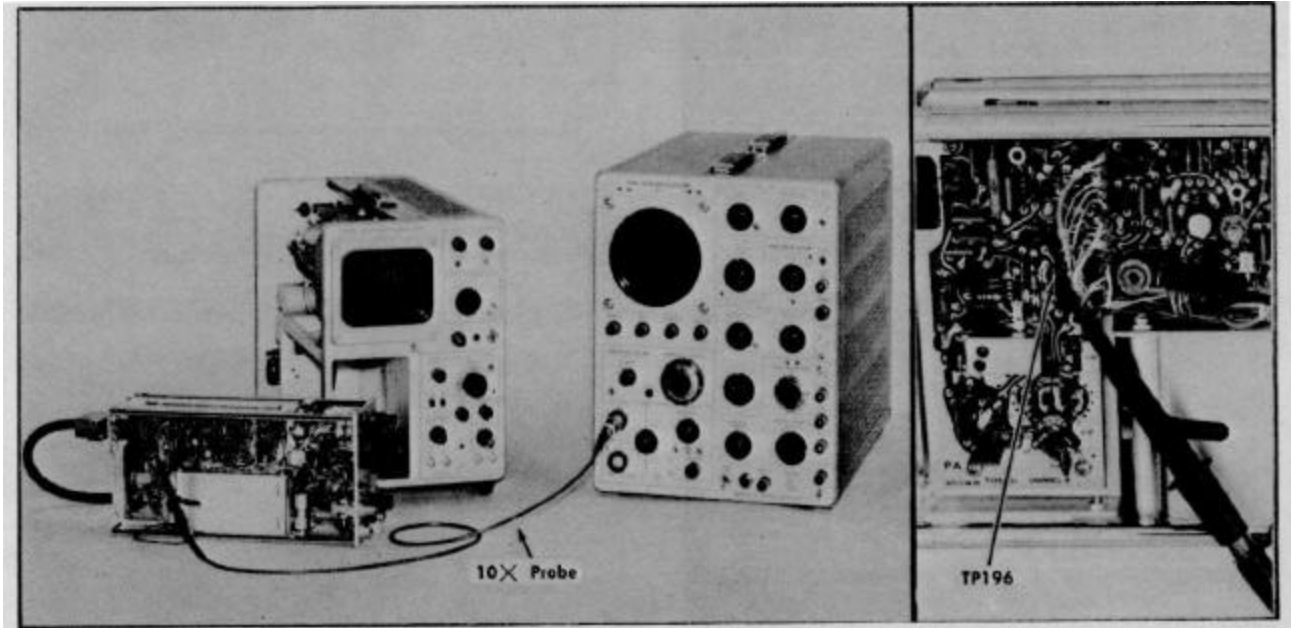

Fig. 8-7. Test setup for Step 4.
- a. Make the connections and control settings listed under Fig. 8-7. The test oscilloscope deflection factor is 1 volt/cm.
c. Move the 10X Probe ground clip to a convenient point near TP196, as shown in Fig. 8-7. Attach the probe tip to TP196. The test oscilloscope trace will move upward from its zero signal position. Use the Type W Position control and place the trace two major divisions above the graticule centerline.